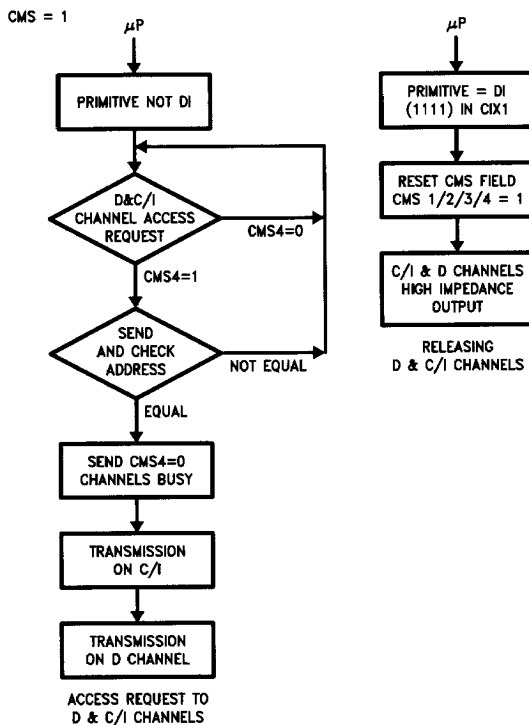

FIGURE 5. D and C/I Channels Access Procedure in GCI-SCIT Mode
*Figure 5* shows flow charts of these procedures.